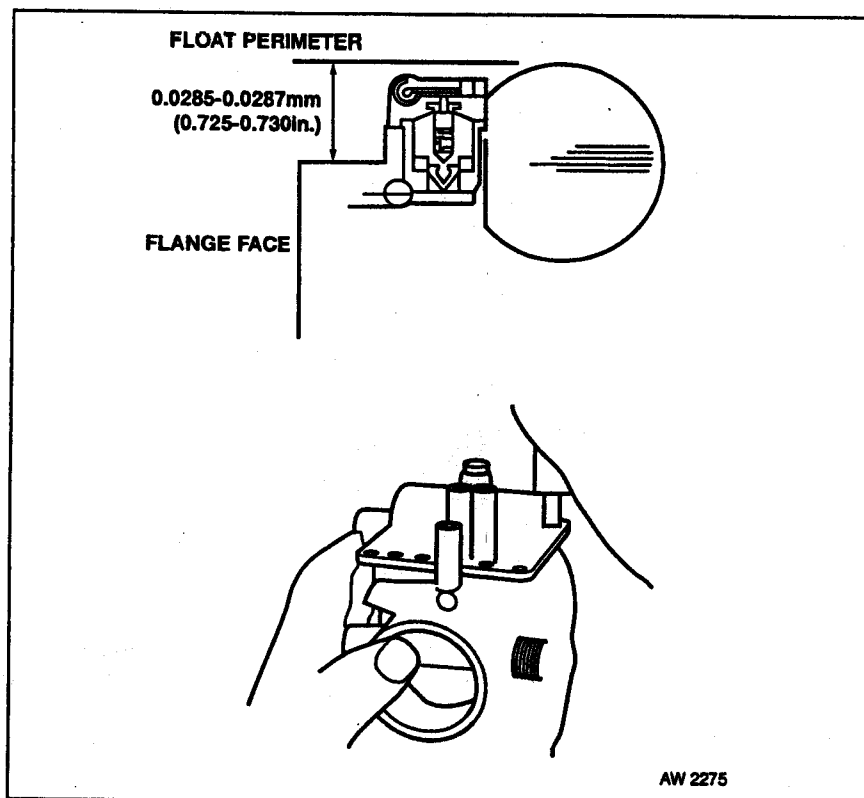

Fig 4.14 Float Adjustment
(3) Fig 4.14 refers. Use a vernier or dial caliper depth rod to measure from the carburettor flange face to the perimeter of the float. Be careful not to push on float while measuring.
(4) If measurement is not within 0.0285–0.0287 mm (0.725–0.730 in) carefully bend tab to position float to proper level.
(5) Position the float bowl on carburettor body. Install screws and washers.
(6) Install carburettor as described.